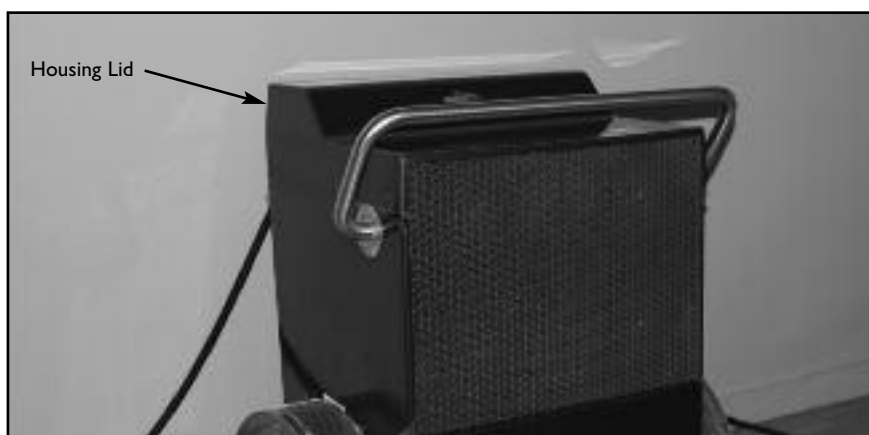

Fig. 9.12
9.15 Once the Fastlane is installed in the pool, place the housing lid onto the housing and use the provided screws to attach. There will be three screws per side, for a total of six (Fig 9.12).